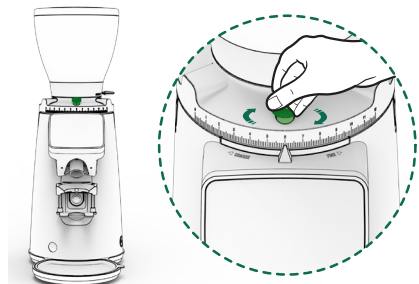

Fig. 9
Once you reach the desired grinding point, you can lock the grinding regulator using the regulator brake. (7) (Fig. 9).